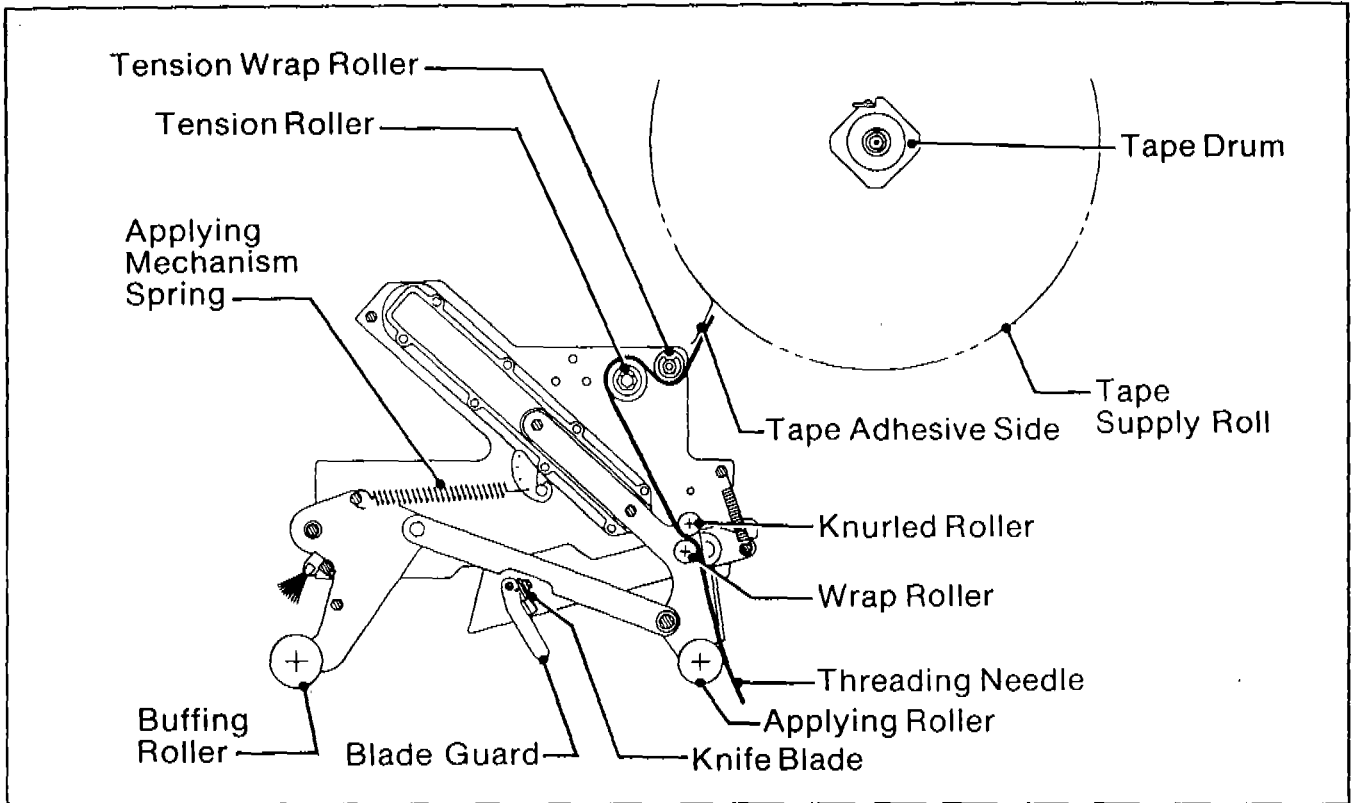

Figure 12 - Tape Threading Diagram - Upper Taping Head - Left Side View
1. BOTH THE UPPER AND LOWER TAPING HEADS UTILIZE EXTREMELY SHARP KNIFE BLADES ON THE ORANGE CUTTER LEVER ASSEMBLY AND WHICH ARE LOCATED UNDER THE BLADE GUARD WHICH HAS THE "WARNING - SHARP KNIFE" LABEL. BEFORE WORKING WITH THE TAPING HEADS OR ATTEMPTING TO LOAD THE TAPE, REFER TO FIGURES 12 AND 12A AND IDENTIFY THE BLADE LOCATION. KEEP HANDS OUT OF THESE AREAS EXCEPT AS NECESSARY TO SERVICE THE TAPING HEADS.
BOTH THE UPPER AND LOWER TAPING HEADS UTILIZE EXTREMELY SHARP KNIFE BLADES ON THE ORANGE CUTTER LEVER ASSEMBLY AND WHICH ARE LOCATED UNDER THE BLADE GUARD WHICH HAS THE "WARNING - SHARP KNIFE" LABEL. BEFORE WORKING WITH THE TAPING HEADS OR ATTEMPTING TO LOAD THE TAPE, REFER TO FIGURES 12 AND 12A AND IDENTIFY THE BLADE LOCATION. KEEP HANDS OUT OF THESE AREAS EXCEPT AS NECESSARY TO SERVICE THE TAPING HEADS.
The applying mechanism spring, shown in Figure 12, controls applying and buffering roller pressure on the box and returns the mechanism to the reset position. The spring pressure is pre-set, as shown in Figure 14A, for normal operation but is adjustable.